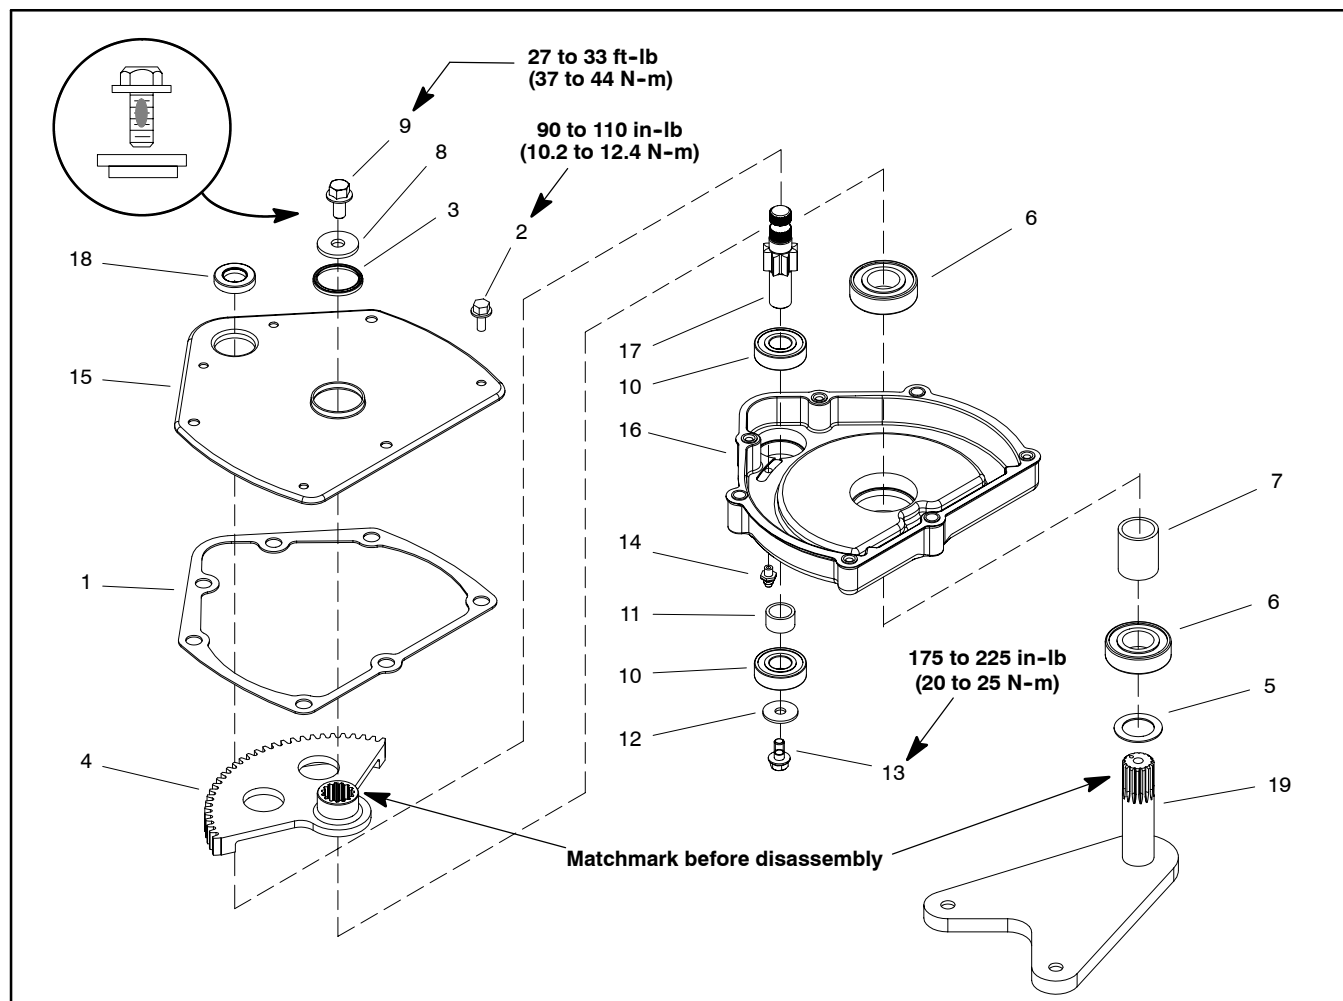

Figure 2
Disassembly (Fig. 2)
Assembly (Fig. 2)
8. Secure stepped washer and flange head screw with patch lock (item 9) to the Pitman arm (item 8). Make sure to position stepped washer as shown in Figure 2. Torque screw from **27 to 33 ft-lb (37 to 44 N-m)**.
9. Secure flat washer (item 12) and flange head screw with patch lock (item 13) to the pinion gear shaft. Torque screw from **175 to 225 in-lb (20 to 25 N-m)**.